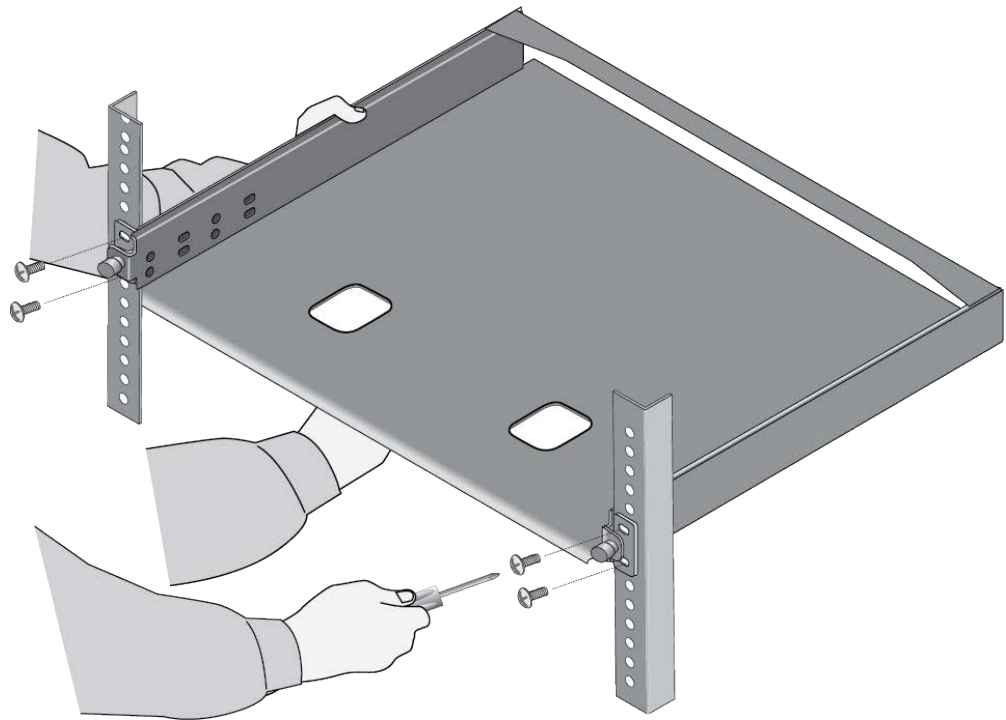

Figure 36. Installing the RKMT-J15 Bracket in the Equipment Rack
1. Have another person hold the RKMT-J15 Bracket at the desired location in the equipment rack while you secure it using four standard equipment rack screws (not provided). Refer to Figure 36.